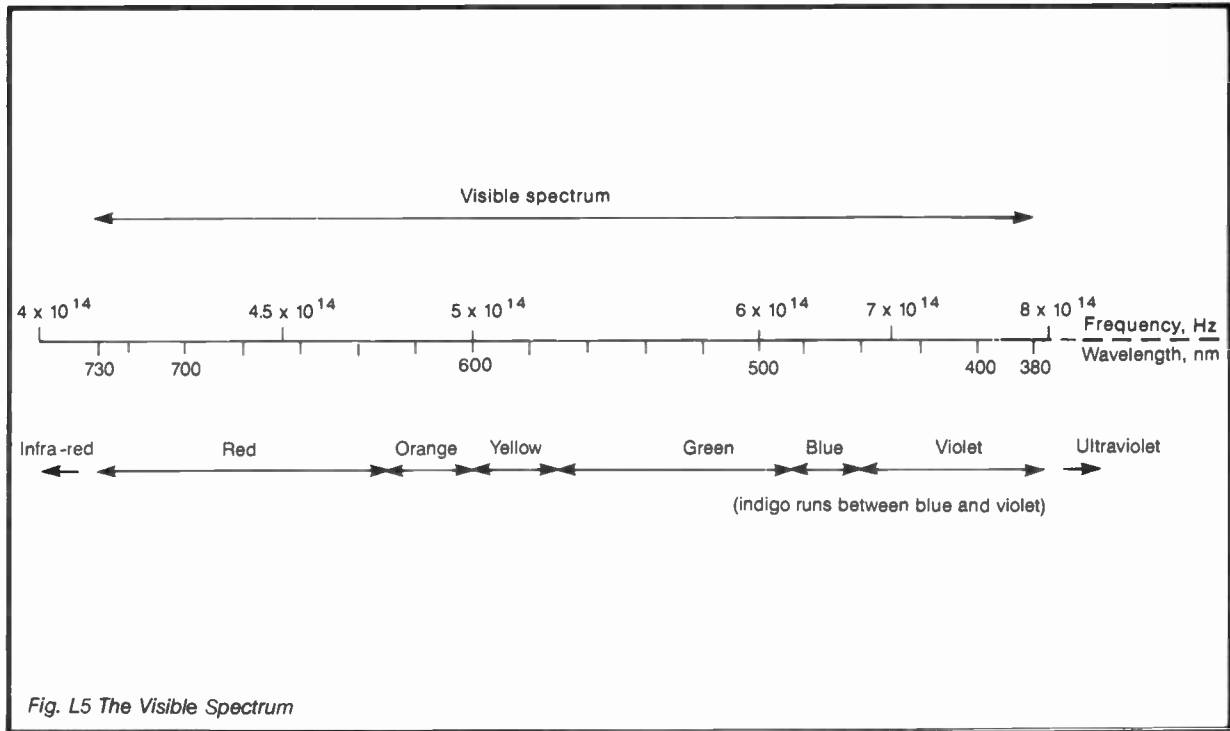

Fig. L5 The Visible Spectrum
**LIGHT** is an electromagnetic phenomenon and as such needs no medium for its transmission. It occupies a band of frequencies running from about  $4.1 \times 10^{14}$  Hz (red) to  $7.9 \times 10^{14}$  Hz (violet) – see Figure L5 for the full colour spectrum. The position of this band within the full electromagnetic spectrum is shown in Figure E5. These frequencies are capable of stimulating the millions of light receptors on the retina of the eye which are interpreted by the brain as vision.
where  $h$  is Planck's constant and  $f$  is the frequency of the radiation – and from Figure L5, taking  $f$  as, say  $4.6 \times 10^{14}$  Hz:
the S.I. System is  $5.4 \times 10^{14}$  Hz (555 nanometres, in the yellow-green part of the spectrum – see Fig.L5) and this happens to be the frequency at which the eye is most sensitive. The candela (cd in the S.I.) is defined as the luminous intensity in a given direction of a light source at  $5.4 \times 10^{14}$  Hz which has an intensity in that direction of 1/683 watts per *steradian*. A steradian (sr) is a unit employed in considerations of point sources of energy, it is the *solid angle* (as at the apex of a cone) which, having its vertex at the centre of a sphere, subtends a surface area equal to the square of the radius (see Fig.L8).